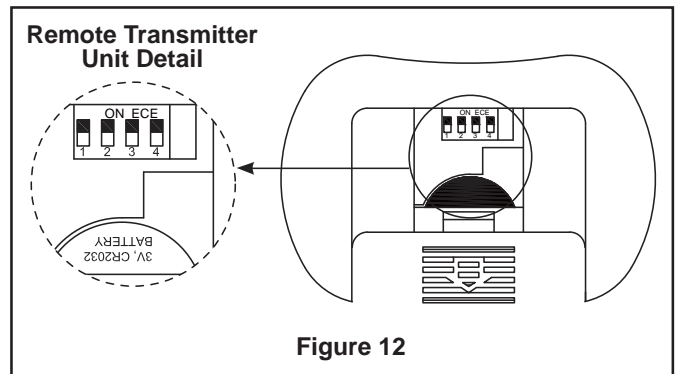

Figure 12
1. To set the transmitter code, remove battery cover by pressing firmly below arrow and sliding cover off. Slide code switches to your choice of up or down position. Factory setting is all up. Do not use this position. With a small screwdriver or ball point pen slide firmly up or down. Replace battery cover on the transmitter (Figure 12).